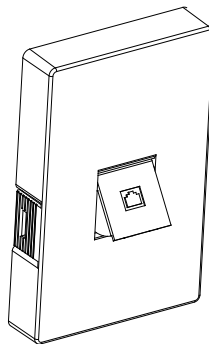

Figure C-3 Keypad protective cover
- ✧ When the local keypad of the 30–630kW models is externally installed, the keypad port on the VFD is prone to dust and foreign objects. It is recommended to purchase a keypad protective cover (model: GD270-JPFH) for sealing, as shown in Figure C-3.